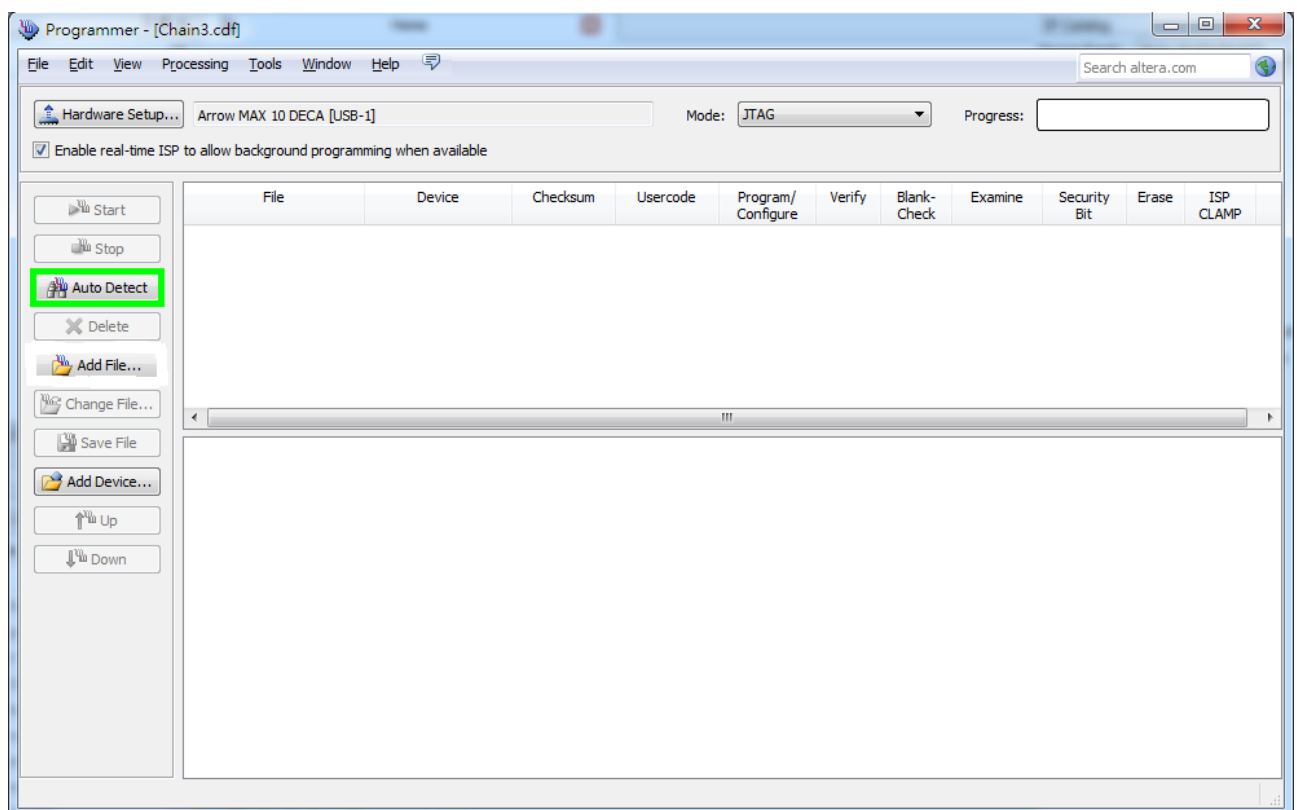

Figure 3-2 Detect FPGA device in JTAG mode
1. Open the Quartus II programmer and click “Auto Detect”, as circled in **Figure 3-2**